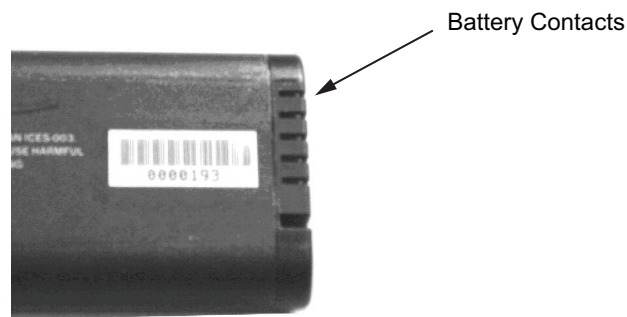

Figure 4-4. Battery Contacts
5. Replacement is the opposite of removal. Note the orientation of the battery contacts, and be sure to insert the new battery with the contacts facing the front of the instrument, as illustrated in Figure 4-4.